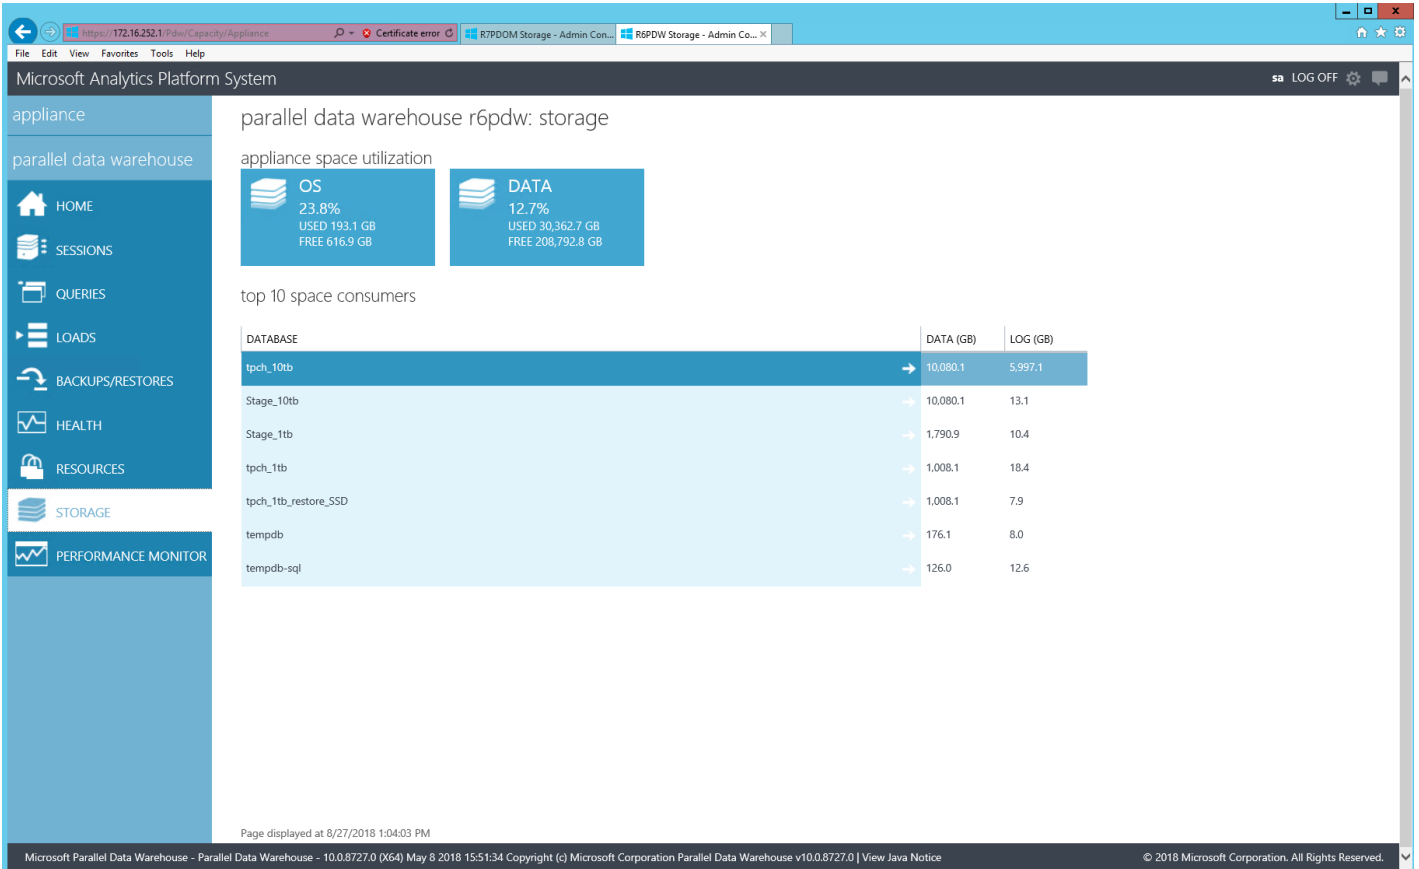

FIGURE 27. Parallel Data Warehouse (PDW) Storage Usage
The Storage screen (Figure 27) provides a report showing the allocation of disk storage across various databases, including tempdb. This view provides information about the overall space utilization of PDW, including the Operating System and databases, and lists the databases by size (DATA (GB)).